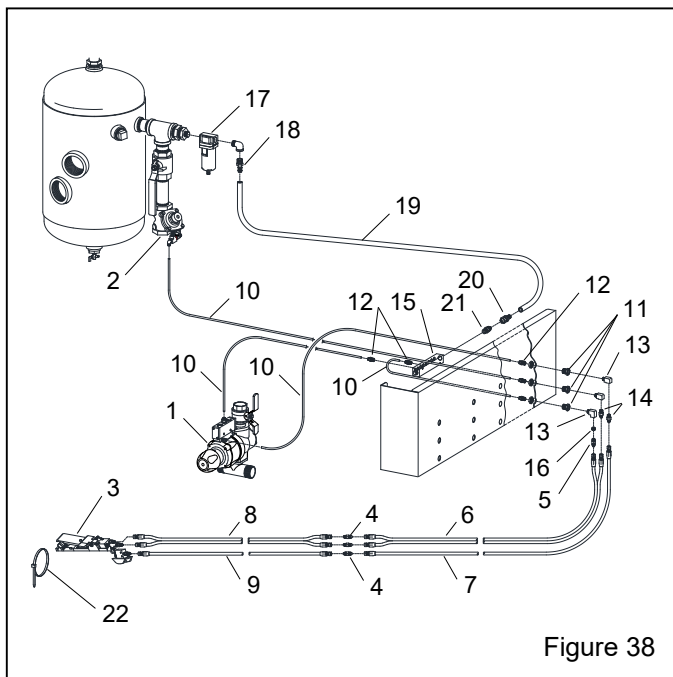

Figure 38
9.3 Pneumatic Remote Controls – Figure 38